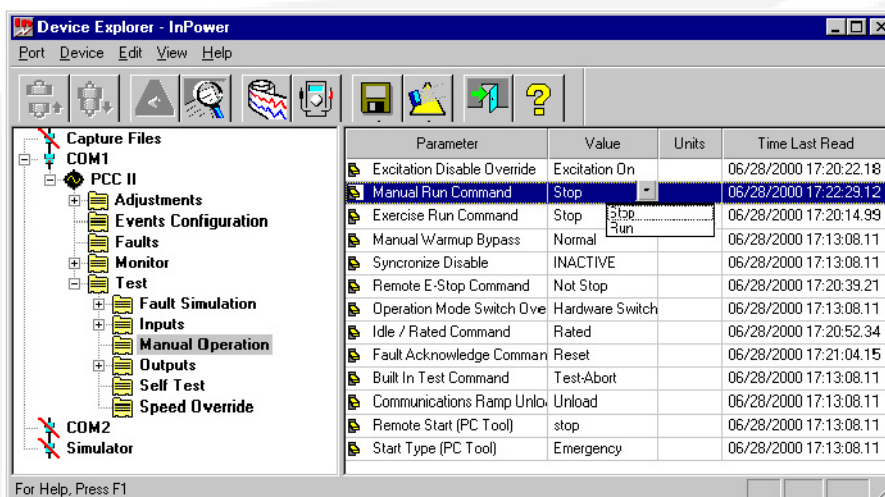

FIGURE 46. MANUAL OPERATION - MANUAL RUN COMMAND
**Example:** In this example, InPower is used to initiate a **Manual Run Command**. Make sure that the Run/Off/Auto switch, on the genset control panel, is set to **Auto**. Double click on the **Manual Run Command** Value cell, and a drop-down list arrow is displayed (refer to Figure 46). Click on the drop-down arrow and click on **Run**. To initiate the **Manual Run Command**, click on the **Save Trims** button, on the toolbar. To end the **Run** command double click on the Value cell again, click on the drop-down arrow and click on **Stop**, then click on the **Save Trims** button, on the toolbar.